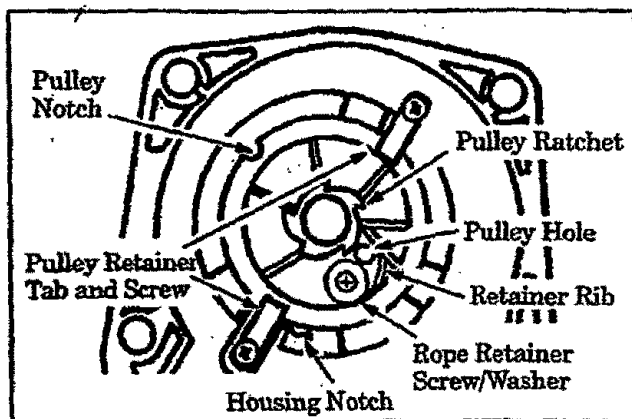

Figure 17
6. Remove the rope retainer screw from pulley; then, remove the broken piece of rope, if any. Figure 17.
7. Grasp the pulley ratchet and wind the pulley clockwise until the pulley stops. Then, slowly unwind the pulley counterclockwise until the pulley notch is aligned with the pulley housing notch. Figure 17. Insert the hex wrench into the hole formed by the aligned notches. Figure 17.
12. Guide rope inside the pulley, then through Pulley Hole. Figure 17.
14. Install and tighten the Retainer Screw/Washer. Figure 17.